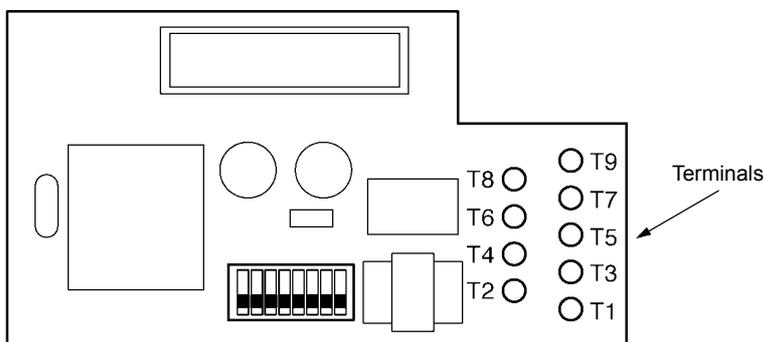

Figure 7-12 ADA-UA Unit
2. Locate the adaptor terminals on the right side of the unit as illustrated in *Figure 7-12 ADA-UA Unit*.